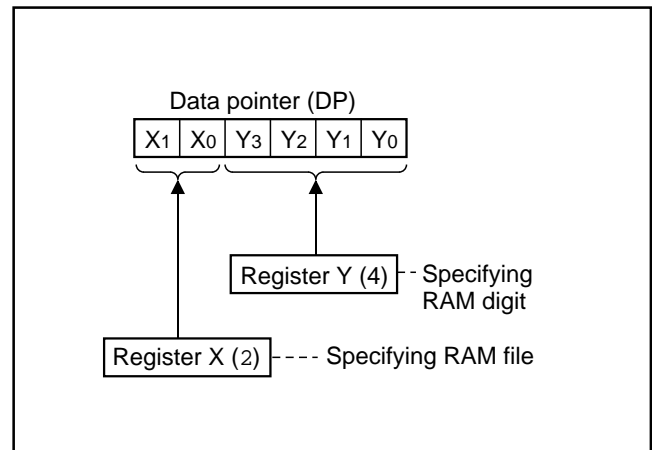

Fig. 8 Data pointer (DP) structure
Data pointer (DP) is used to specify a RAM address and consists of registers X and Y. Register X specifies a file and register Y specifies a RAM digit (Figure 8).